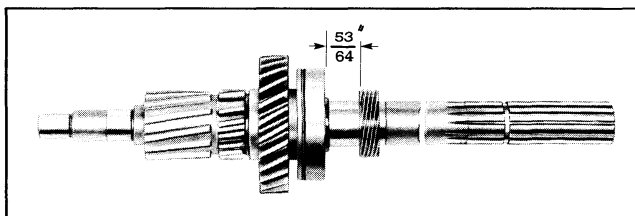

Fig. 7-29 Mainshaft Assembly
5. Start speedometer drive gear on shaft with chamfered I.D. of gear toward bearing. Press gear on shaft until forward face of gear is $53/64$ " from rear face of bearing (Fig. 7-29).